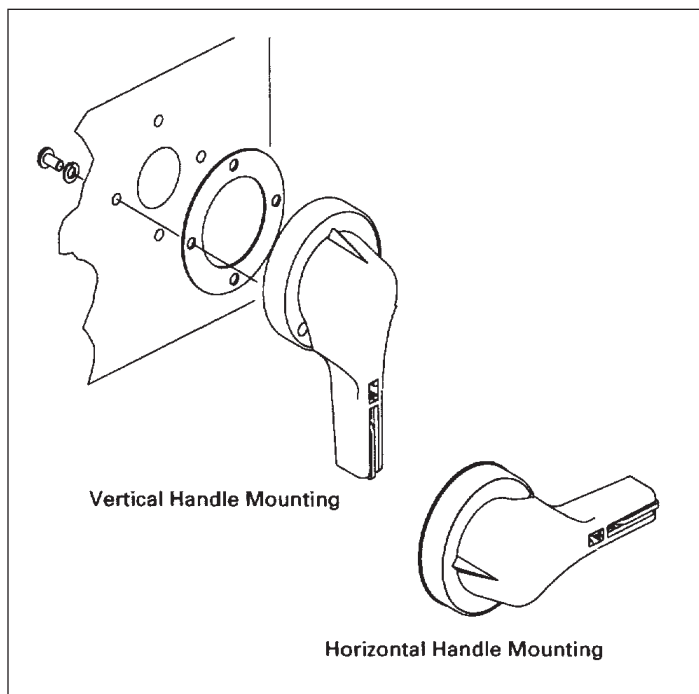

Figure 6. New Handle on Door.
6. For vertical and horizontal handle mounting orientation, see Figure 6.